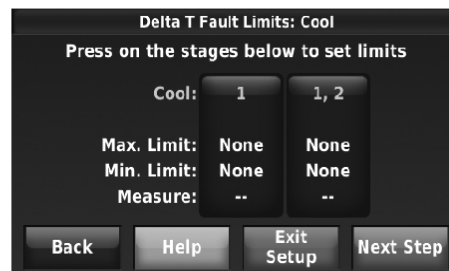
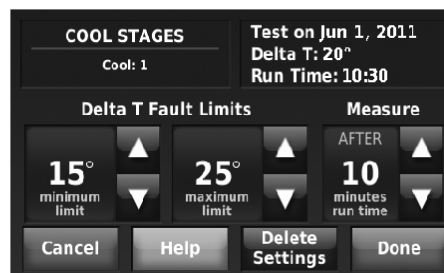

Fig. 18.
Fig. 19.
1. Press Stage 1 to set the limits and run time (see Fig. 18). Use the saved test data located in the upper right corner of the screen to set the Delta T Minimum and Maximum Limits and the Run Time (see Fig. 19).